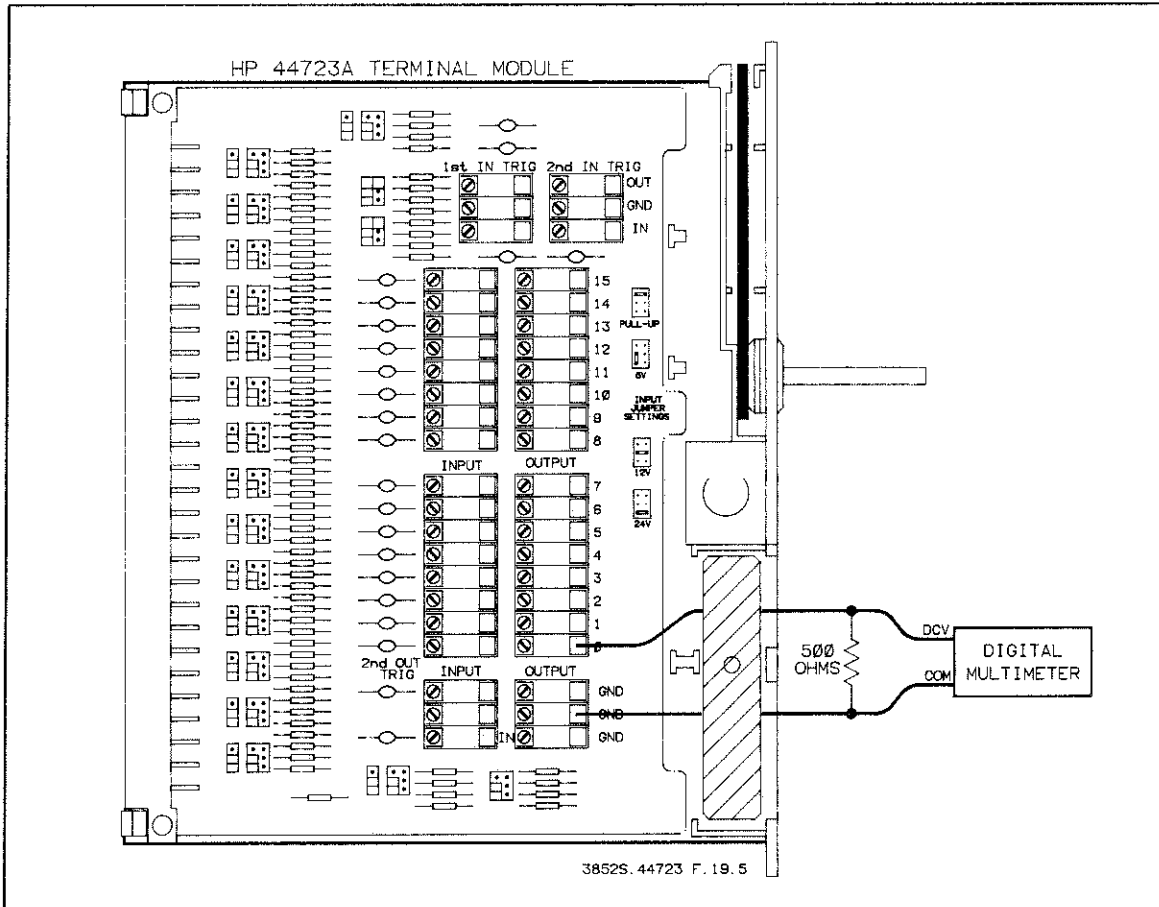

Figure 19-5 Output Driver Test
2. Make sure the output jumpers on the terminal module are selected for TTL outputs on all channels (see Figure 19-5).
4. Refer to Figure 19-5. Connect a 500 Ω , 1/4 W resistor across the digital multimeter's DCV (HI) and COM (LO) input terminals. Setup the digital multimeter for dc volts and autorange.
5. Connect the digital multimeter's DCV input to the HIGH output terminal of channel 0 on the terminal module. Connect the COM input to GND on the terminal module. The setup is shown in Figure 19-5.
10. Set all channels low (0) by executing: